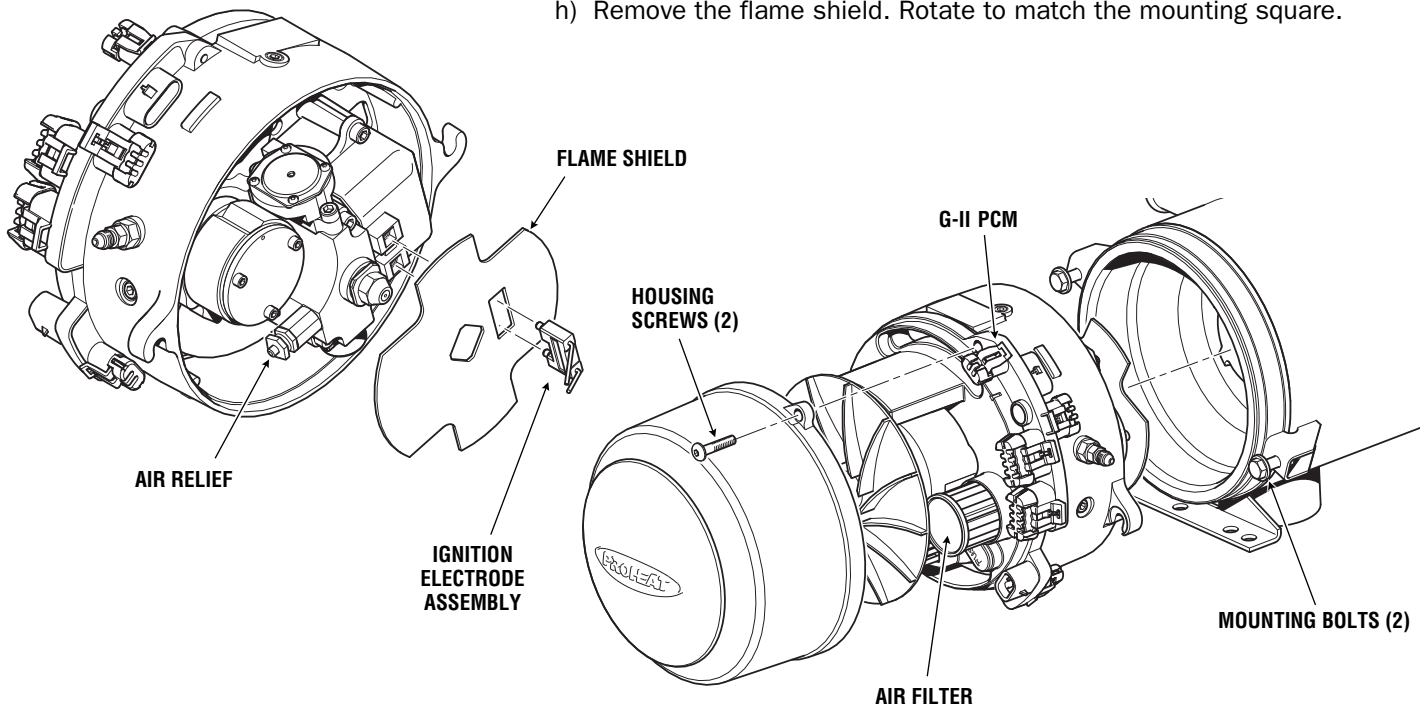

Figure 5-7: Access the Compressor and Air Filter.
- a) Remove the nozzle and air relief (see Figure 5-7). If the nozzle stem looks black, clean as shown on page 4-7 or replace the nozzle.
- c) Remove the air filter and blower (see Figure 5-7).